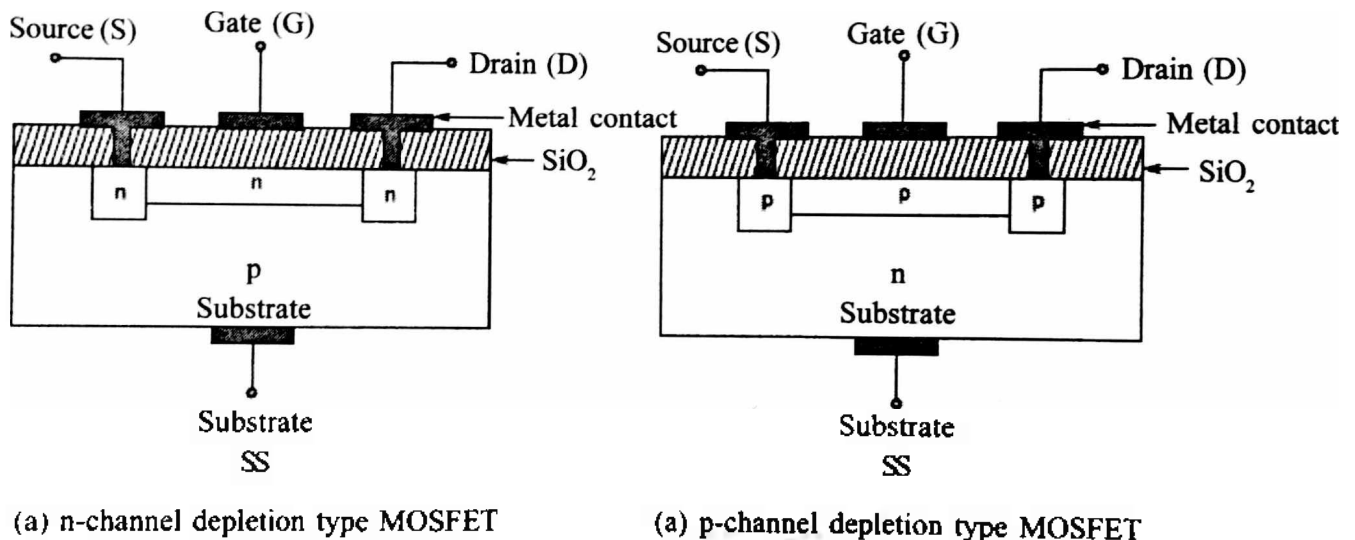
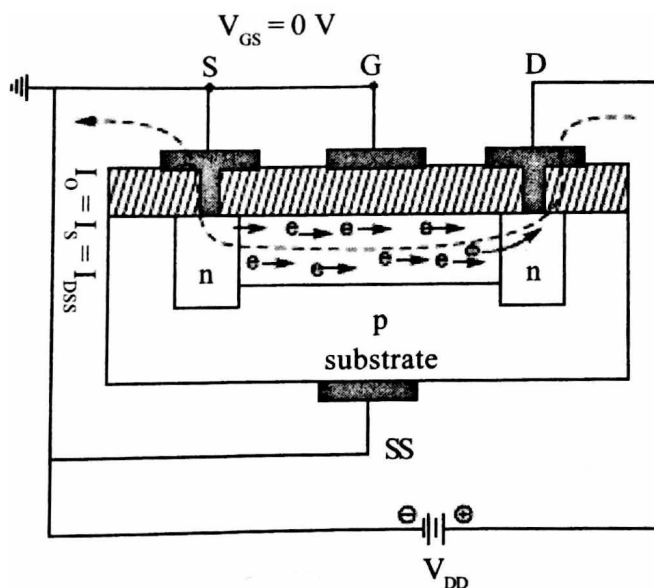

Fig. 4.76
Fig. 4.77 N -channel depletion MOSFET operation when V
The basic structure of an n -channel depletion type MOSFET is shown in Fig. 4.76. A slab of p -type material is formed from a silicon base as the substrate. In some cases the substrate is internally
connected to the source terminal. However many discrete devices provide an additional terminal labelled SS, resulting in a four terminal device. The source and drain terminals are connected through an n channel as shown in Fig. 4.76. The gate is also connected to a metal contact surface but remains insulated from the n -channel by a very thin silicon dioxide (SiO_2) layer. *There is no electrical connection between the gate terminal and the channel of MOSFET.* Due to the presence of the SiO_2 layer between gate terminal and n -type channel, the input impedance of MOSFET is very high.
For n -channel depletion type MOSFET there will be an n -type silicon region (channel) connecting the source and drain at the top of the p -type substrate as shown in Fig. 4.76(a). Similarly for p -channel depletion type MOSFET there will be a p -type region channel connecting the source and the drain at the top of the n -type substrate as shown in Fig. 4.76(b).
1. Depletion mode of operation Fig. 4.76(a) shows a MOSFET with a negative gate to source voltage. The negative potential at the gate will tend to pressure or repel electrons towards the p -type substrate as shown in Fig. 4.77(a level of recombination between repelled electrons and attracted holes will occur that will reduce the number of free electrons in the n -channel for conduction. The resulting drain current is reduced by increasing the negative gate voltage.